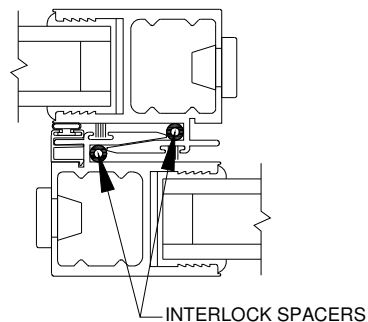

Figure 32:
4. Repeat steps 2-3 until all panels have been installed. Panels must overlap during installation to allow proper engagement of interlockers (Figure 32).
5. Verify that all panels with interlocker hooks engage properly. If lead stile panel is not engaging properly with the jamb or meeting stiles, remove interlock spacers as necessary (Figure 32).